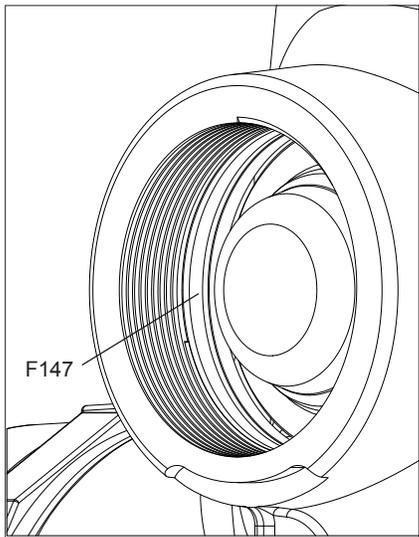

Fig. 3D
5. Remove Threaded Hose Nozzle O-ring (F147), See Fig. 3D, or Threaded Pumper Nozzle O-ring (F131), See Fig. "3E", and replace with a new one.
4. Remove Threaded Hose Nozzle O-ring (F147), See Fig. 3D, or Threaded Pumper Nozzle O-ring (F131), See Fig. "3E", on page 9.